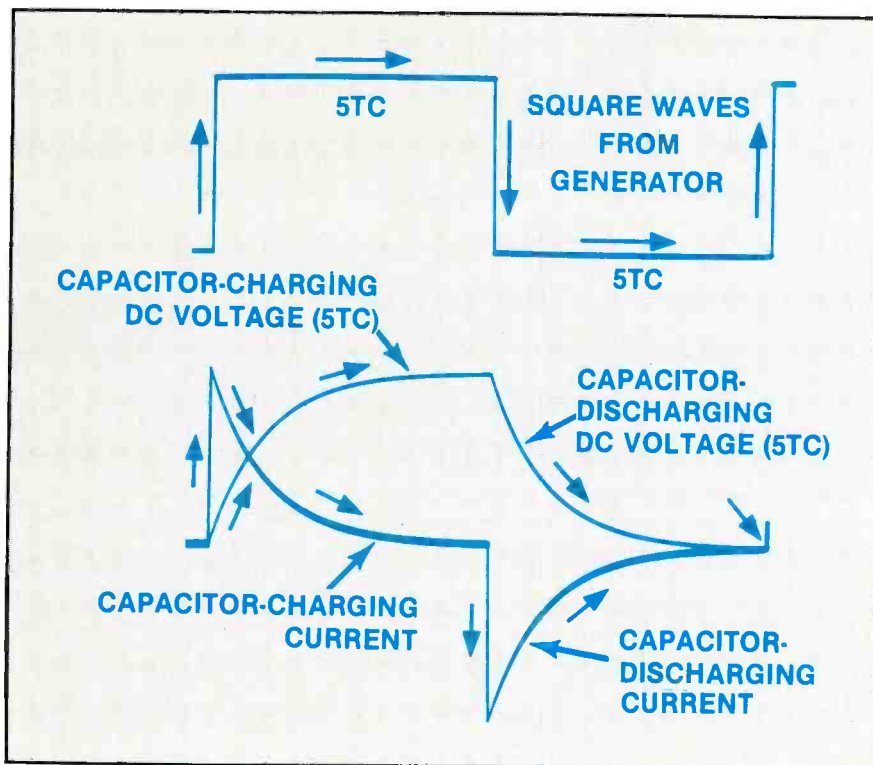

Figure 4. Voltage and current curves during five charging time constants and five discharging time constants are shown. Arrows show movement of the scope beam.
Figure 4 shows the relationships between voltage and current over 10 time constants. Repetition rate of the square waves and the precise time constant were chosen
Figure 5. Six lowpass filters show how square waves change as the time constant is increased in steps. Remember, these waveforms will resemble the voltage charging/discharging curves of Figure 4. (A) A $0.0005\mu\text{F}$ capacitance have a $10\mu\text{s}$ time constant and barely rounded two corners (marked with arrows). Watch these corners as the time constant is increased. $10\mu\text{s}$ with 200Hz square waves gave the same waveform as $500\mu\text{s}$ would at 4Hz . Also, the same waveshape can be obtained at 2000Hz with a $1\mu\text{s}$ time constant. (B) Increasing to $0.0028\mu\text{F}$ and $56\mu\text{s}$ time constant rounded the two corners even more. The same waveshape can be obtained with $500\mu\text{s}$ at 22.4Hz , and a time constant of $5.6\mu\text{s}$ would give the same waveshape at 2000Hz repetition rate. (C) With the time constant at $245\mu\text{s}$, the curve begins to resemble the classic textbook time-constant curve of Figure 2. A rep rate of 98Hz would give the same waveform with $500\mu\text{s}$ TC. At 2000Hz , $24.5\mu\text{s}$ is needed for an identical waveshape. (D) A $500\mu\text{s}$ time constant provides 10 time constants (totaling $5000\mu\text{s}$) and forms the classic voltage charging/discharging curves that are used in most explanations about time constants. No loss of output waveform height occurred in these four examples because full voltage was attained before the end of the positive peak. The same 2000Hz waveshape can be obtained with a $50\mu\text{s}$ time constant. (E) A long $1340\mu\text{s}$ time constant slowed the rise of charging voltage until the positive peak had passed, thus the height is reduced to 72% of the input amplitude. The same waveshape can be obtained at 536Hz with a $500\mu\text{s}$ time constant, or at 2000Hz with a $134\mu\text{s}$ time constant. (F) Increasing the time constant to $4240\mu\text{s}$ produced a triangular waveshape having almost perfectly straight lines. The actual amplitude relative to the input signal is shown by the center trace, while the lower trace has had the amplitude increased by increasing the scope gain. Such strong filtering also produces huge phase shifts when sine waves are used to replace square waves. A rep rate of 1696Hz produces the same waveshape with a $500\mu\text{s}$ time constant. Also, 2000Hz with $42\mu\text{s}$ gives an identical waveshape. (G) The lowpass-filter schematic is similar to the test setup in Figure 1 with square waves used instead of a dcV source. (H) These are actual frequency response readings of the six TC filters. They show the areas where maximum phase shifts occur (attenuation of 1dB or more).